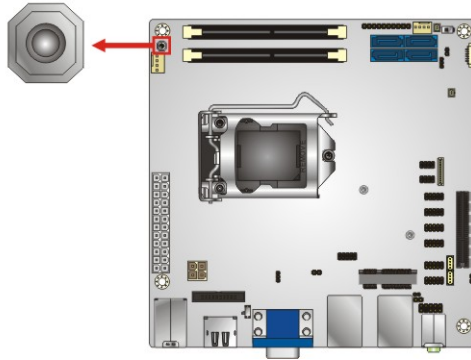

Figure 3-19: Power Button Location
- CN Location:** See **Figure 3-19**